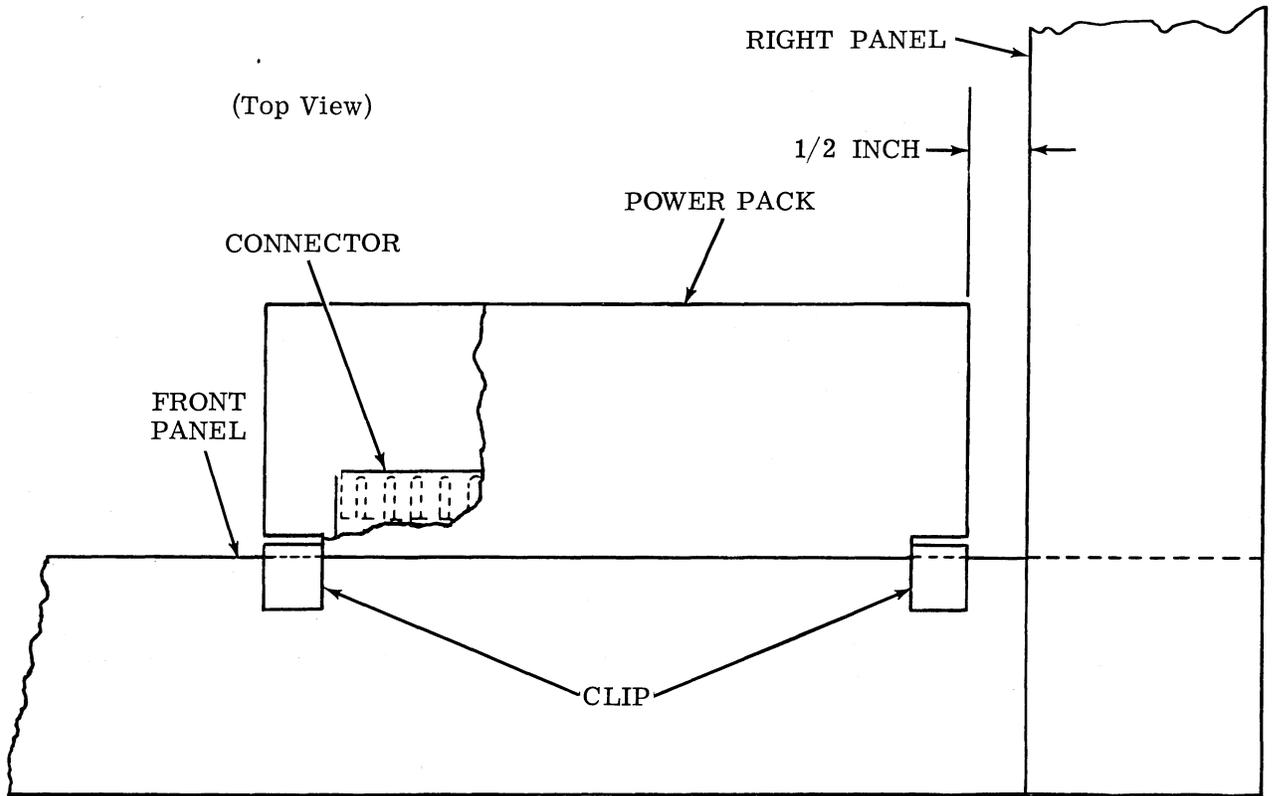

Figure 13 - Power Pack Assembly
6.01 Clip the power pack to the front panel inside the stand (Figure 13). Position the power pack approximately 1/2 inch from the right panel.